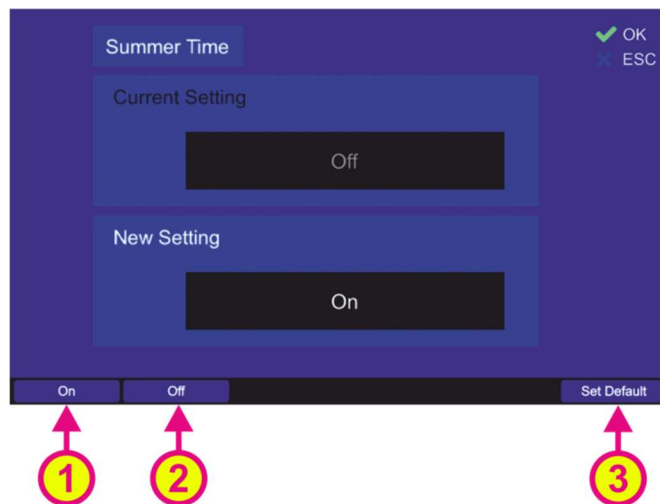

Figure 141. Changing summer time setting
- Choose the “On” or “Off” hotkey to set the desired variant of the time indication (s. Figure 141, positions 1 or 2).
- Use the “Set Default” hotkey (s. Figure 141, position 3) to reset the value to the default value (Off).